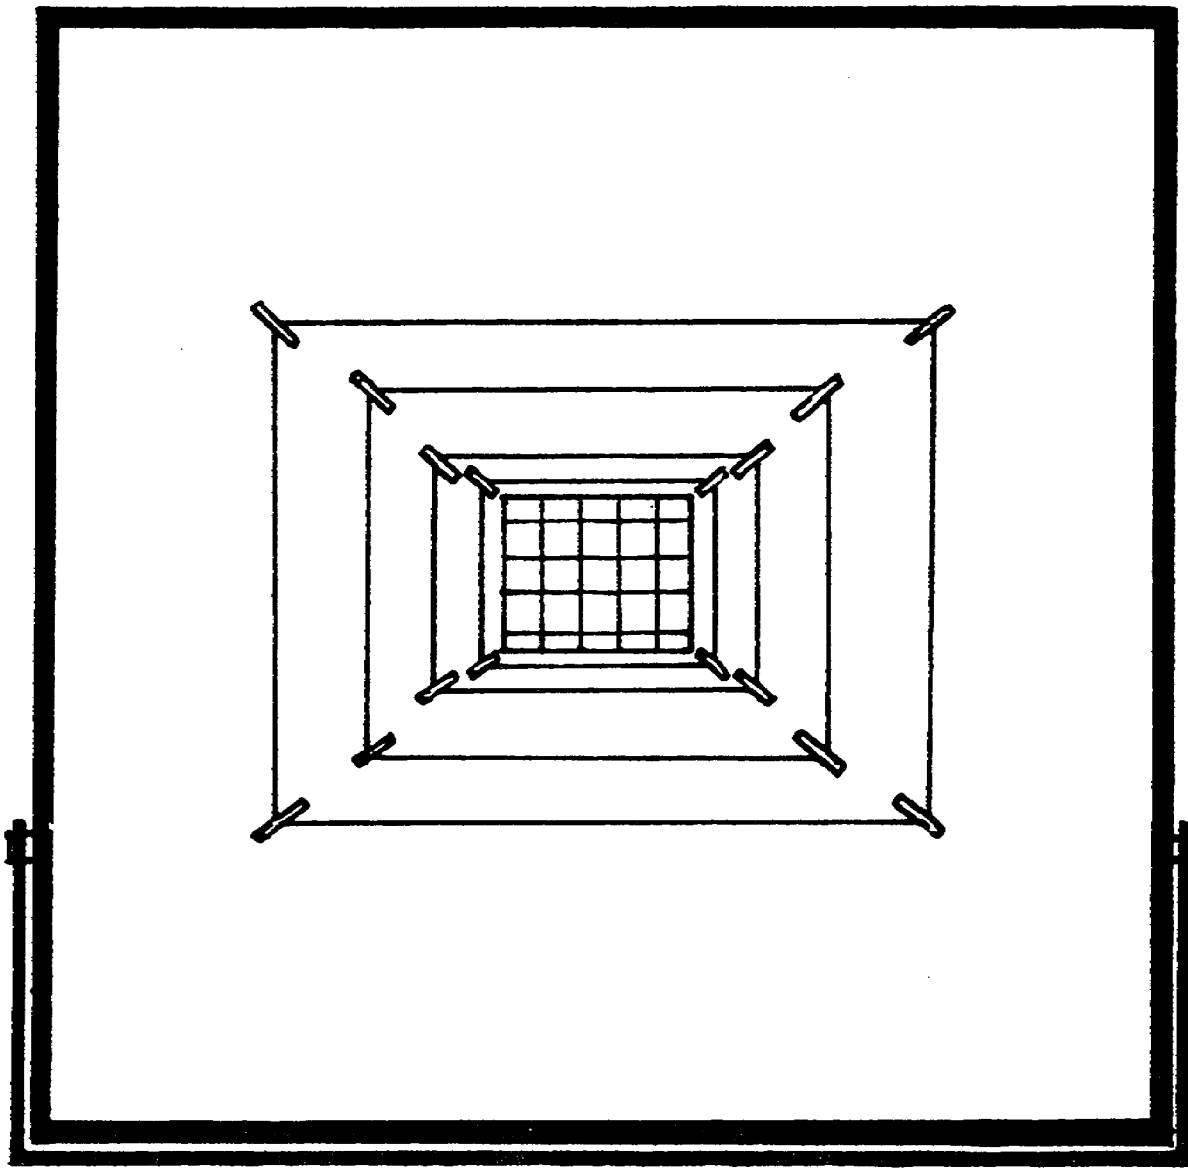

Figure 1-48. Easel with standard masks.
g. Easel. The easel is hinge mounted on the front end and includes an opal glass secured within the easel frame. This is used when copying transparent material, by placing an illuminating light source behind the easel. Five interlocking photographic masks, (fig 1-48), are supplied to hold copy to the glass frame. Both the glass frame and the masks use clips to secure copy, or the next smaller mask, to the easel. A calibrated mounting plate ((2) below) mounted on a sponge rubber padded mounting board, and two glass plates, are also part of the easel.
(1) Mounting plate. The mounting plate is used to provide copy support on the easel. The mounting plate has a white imprinted scale calibrated in inches, and a border imprinted for  $8\frac{1}{2}$ x11-inch and  $8\frac{1}{2}$ x14-inch sheets.